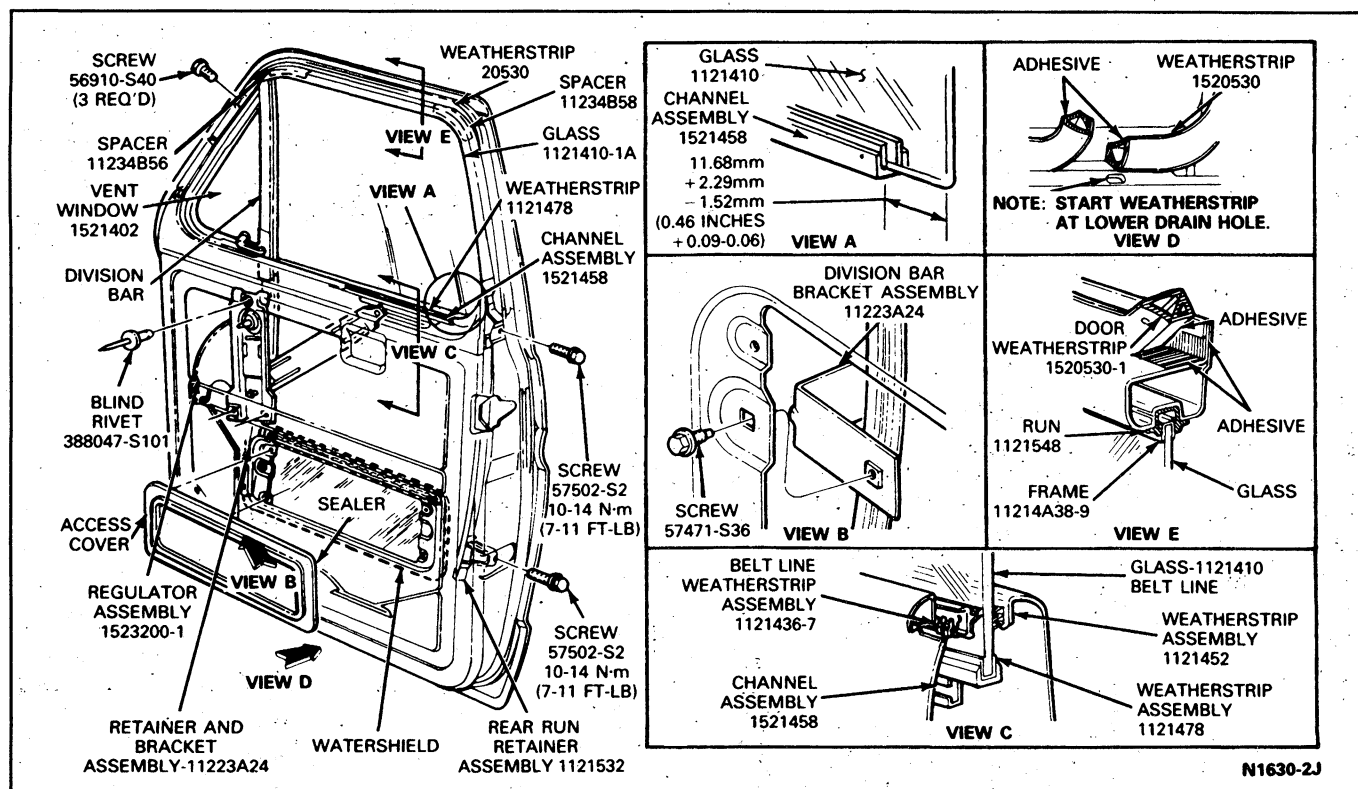

FIG. 1 Front Door Window Glass Adjustment—E-150—E-350
3. Loosen the front division bar lower attaching screw and the rear run retainer lower attaching screw (Figs. 1 and 2).
4. Lower the window glass until the top edge of the glass is approximately 101mm (4 inches) above the belt line (Figs. 1 and 2).
5. Tighten the screws (Figs. 1 and 2) and check the operation of the window mechanism.
2. Remove three screws attaching the vent window assembly to the upper leading edge of the door (Fig. 1).